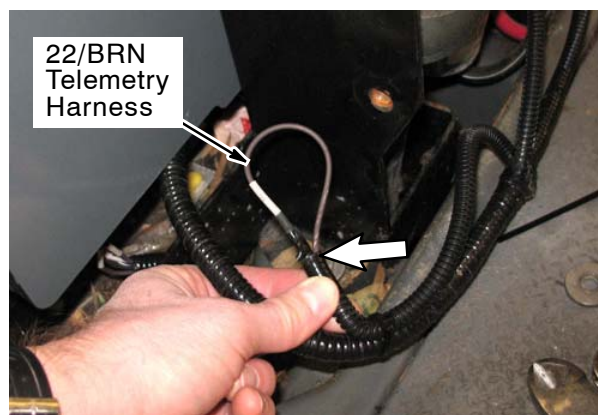

Fig. 12
Machines without ec-H2O system: Insert the wire (22/BRN) connector labeled “ec-H2O Harness”) into the telemetry harness (16) conduit. Use electrical tape to secure the connector inside the conduit. (Fig. 12)